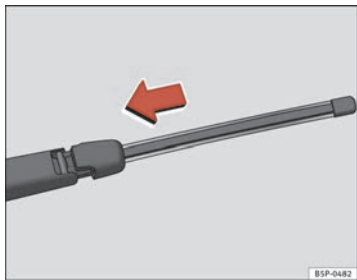

Fig. 165 Mount rear window wiper blade
- Place the blade as shown in the ⇒ page 225, fig. 165 and slide the adapter along until it fits into place.